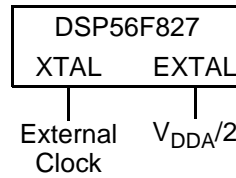

Figure 13. Connecting an External Clock Signal
The recommended method of connecting an external clock is given in Figure 13. The external clock source is connected to XTAL and the EXTAL pin is held $V_{DDA}/2$
1. See Figure 13 for details on using the recommended connection of an external clock driver.